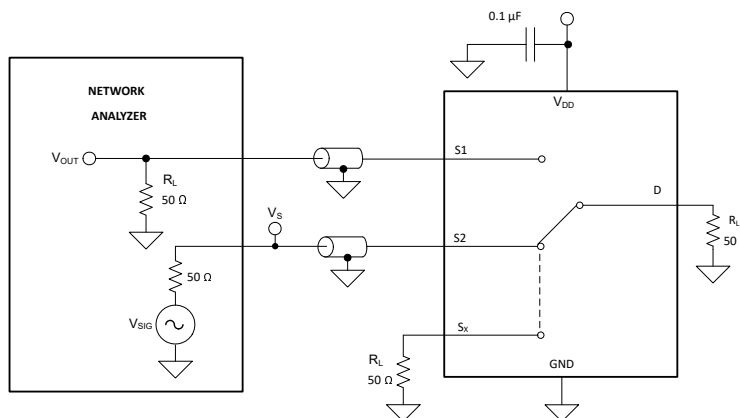

**Figure 7-9. Off Isolation Measurement Setup**
Off isolation is defined as the ratio of the signal at the drain pin (D) of the device when a signal is applied to the source pin (Sx) of an off-channel. Figure 7-9 shows the setup used to measure, and the equation to compute off isolation.